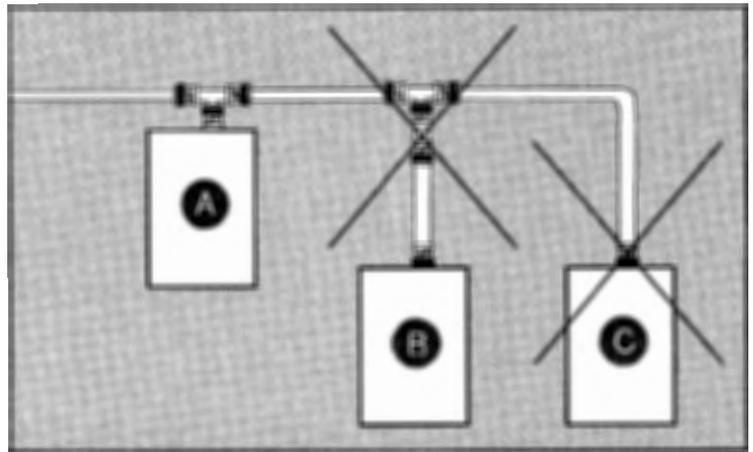

Figure 3-8. Correctly Connecting a ThinLAN Cable
Figure 3-8 shows the right and wrong ways to attach the ThinLAN cable to your printer. Connection ① in Figure 3-8 is a correct ThinLAN connection.